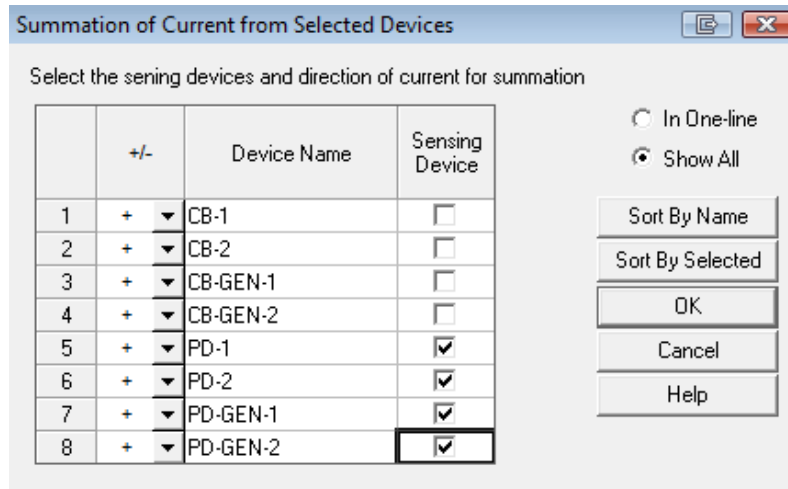

Figure 6
- The window for “Summation of Current from Selected Devices” will prompt for the selection of the protective devices as the reference CTs. An additional option is provided to select these devices from the TCC associated one-line drawing or from all of the devices in the project (Figure 6).
- Select and check the box for PD-GEN-1, PD-GEN-2, PD-1, and PD-2 as sensing devices. Note that there is a +/- drop down menu for each device to reverse the direction of the sensed current. In other words, it will add a 180 deg to the phase angle of the sensed current vector. Leave the +/- drop-down menu as “+” and click OK to have the referenced device currents summed and displayed under the Summation/Direction column (Figure 6 and 7).